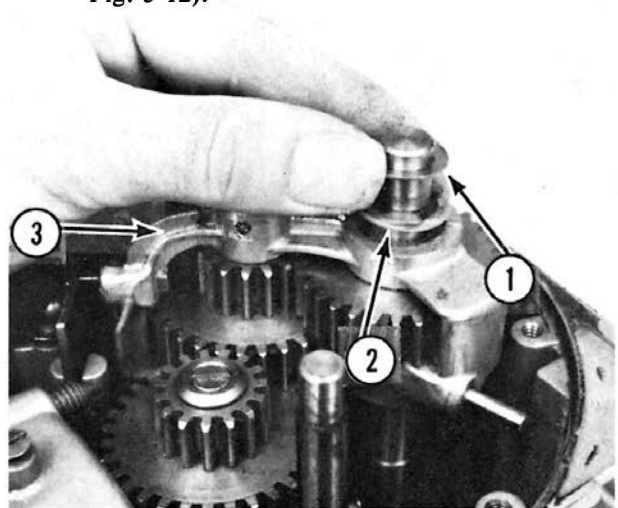

Fig. 3-12
- G. Remove the washer (1, Fig. 3-12) from the upper transmission shaft.
- H. Remove the retaining ring (2, Fig. 3-12) and washer from the upper transmission shaft.
- I. Remove the tumbler yoke and gear assembly (3, Fig. 3-12).